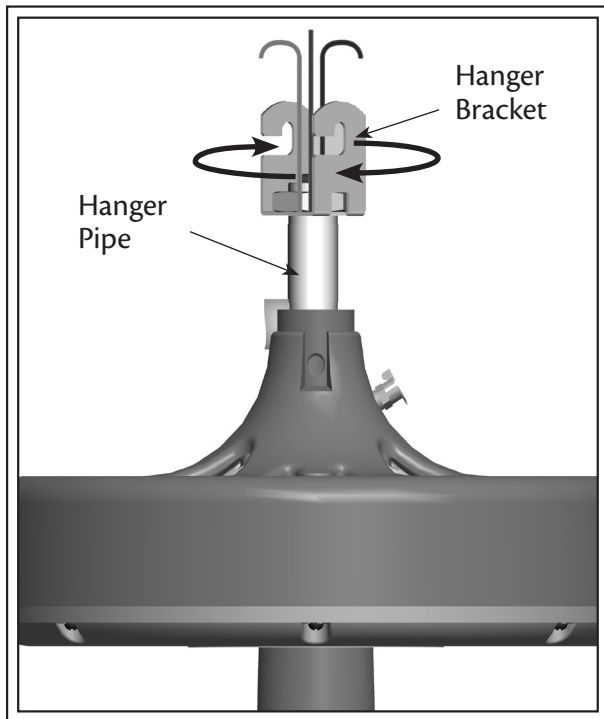

Fig. 5
6. Feed the wires through the hanger bracket assembly and screw the hanger bracket onto the hanger pipe until tight (at least 3 turns) (see Fig. 5).